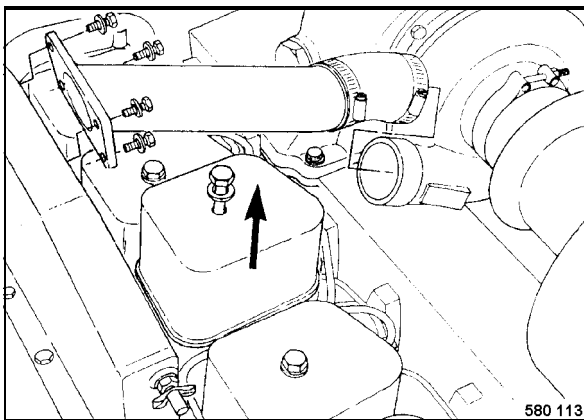

Fig. 116
- Disassemble all cylinder head covers 1 (Fig. 116).